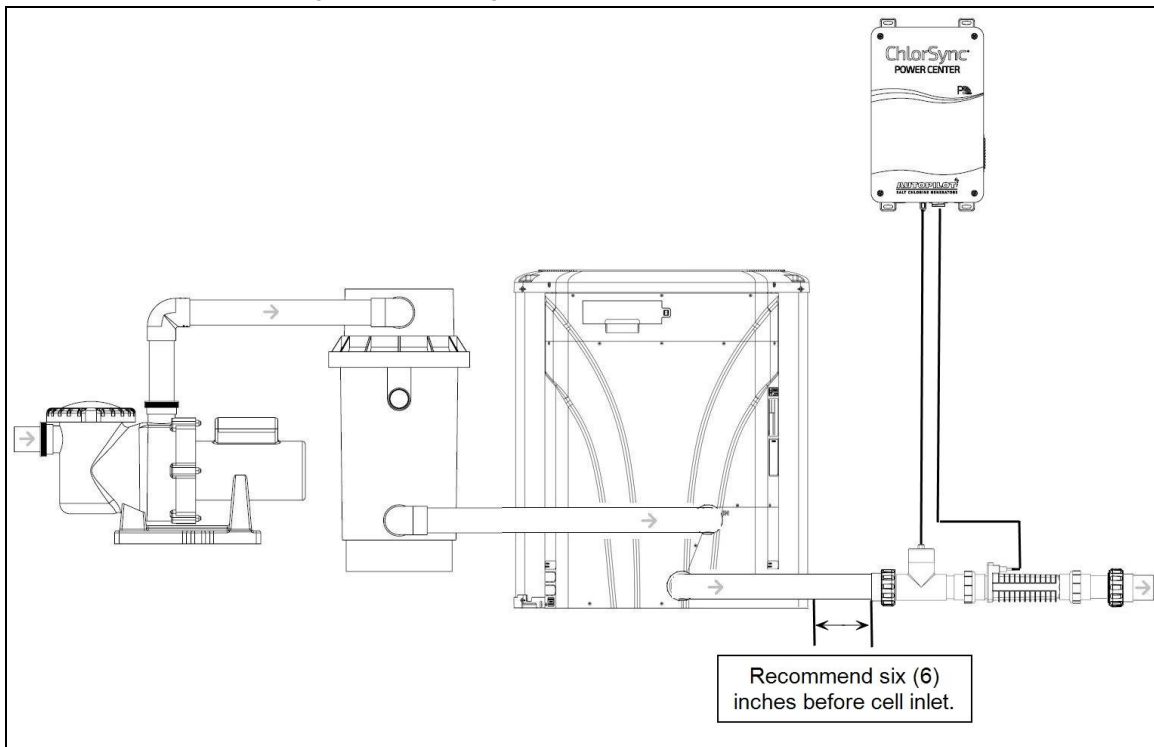

Figure 3
- If using an inline cell, for accurate flow detection and to prevent turbulence it is recommended that at least 6" (15 cm) of straight pipe be provided in front of the cell inlet. See **Figure 3**.